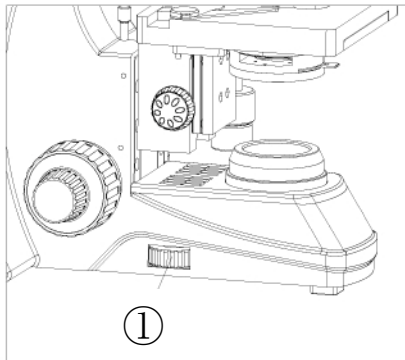

Fig. 4
With the microscope turned on, rotate the light adjustment knob ① until the illumination is comfortable for observation. Rotate the light adjustment knob clockwise to raise the voltage and brightness. Rotate the light adjustment knob counterclockwise to lower the voltage and brightness (see Fig. 4).